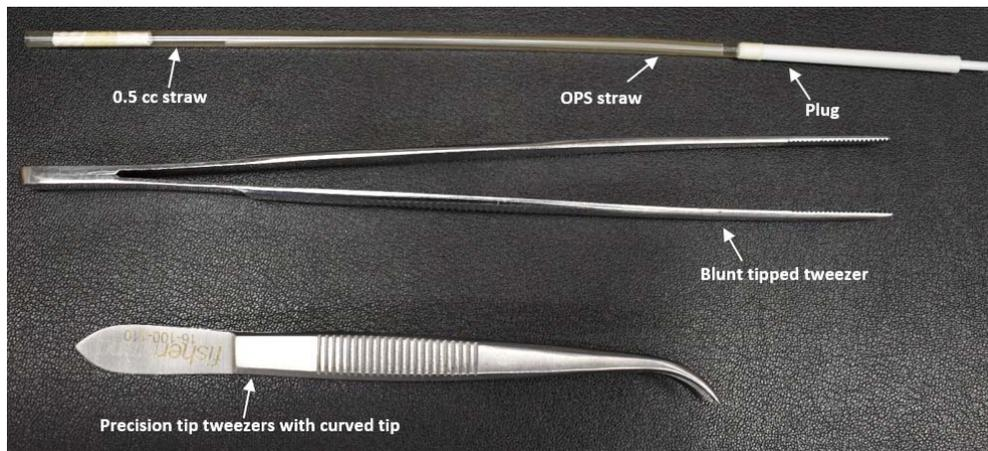

Figure 1. Devices used for vitrification and warming procedure
4. Straws for OPS vitrification (Minitube, Ref. 19050/0050) (see figure 1)
5. 0.5 cc straws clear radiated (Agtech ITEM #F02) (see figure 1)
7. Precision tip tweezers with curved tip (see figure 1)
8. Blunt tipped tweezer (see figure 1)